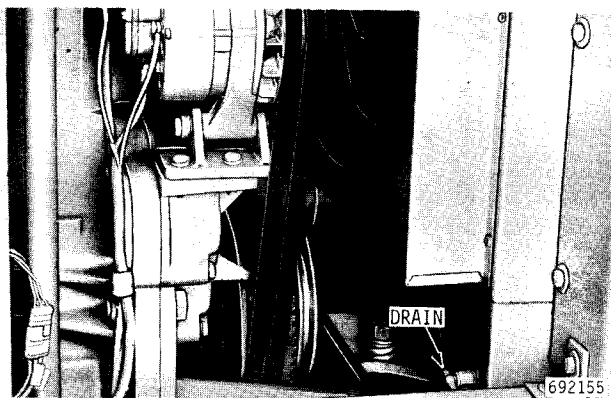

Figure 28
1. While the coolant is still hot, open the radiator drain valve, engine oil cooler drain valve and engine block drain valve. See Figures 28, 29 and 30. Remove radiator cap to aid draining. Drain all coolant and close drain valves.